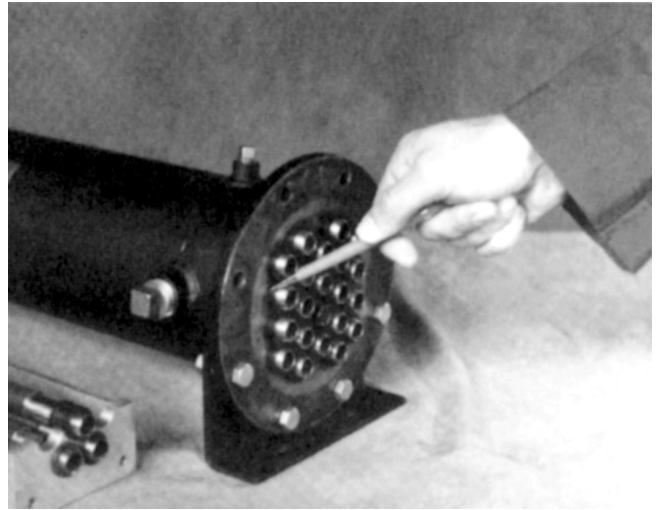

Figure 7
2. Inspect each seal to ensure that they are all seated tightly against the header sheet. If a space greater than 1/32" exists between the header sheet and the outer lip of a seal, that seal must be removed, inspected, and reinstalled (see Fig. 7).